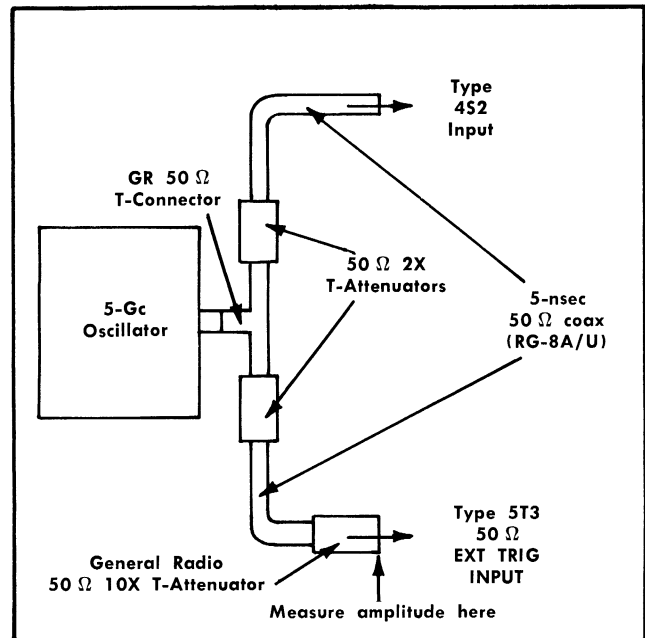

Fig. 5-43. Signal connections for 5-Gc UHF Sync check.
s. Disconnect the 2-Gc oscillator and connect the 5-Gc oscillator as shown in Fig. 5-43.
t. Set the oscillator amplitude to present 50 mv of signal (peak-to-peak) at the Type 5T3 50 Ω EXT TRIG INPUT connector. Measure this amplitude with a bolometer (17.7 mv rms = 6.24 μw in 50 ohms) by temporarily disconnecting the attenuator from the 50 Ω EXT TRIG INPUT connector as shown in Fig. 5-43. The display cannot be used to determine the signal amplitude.